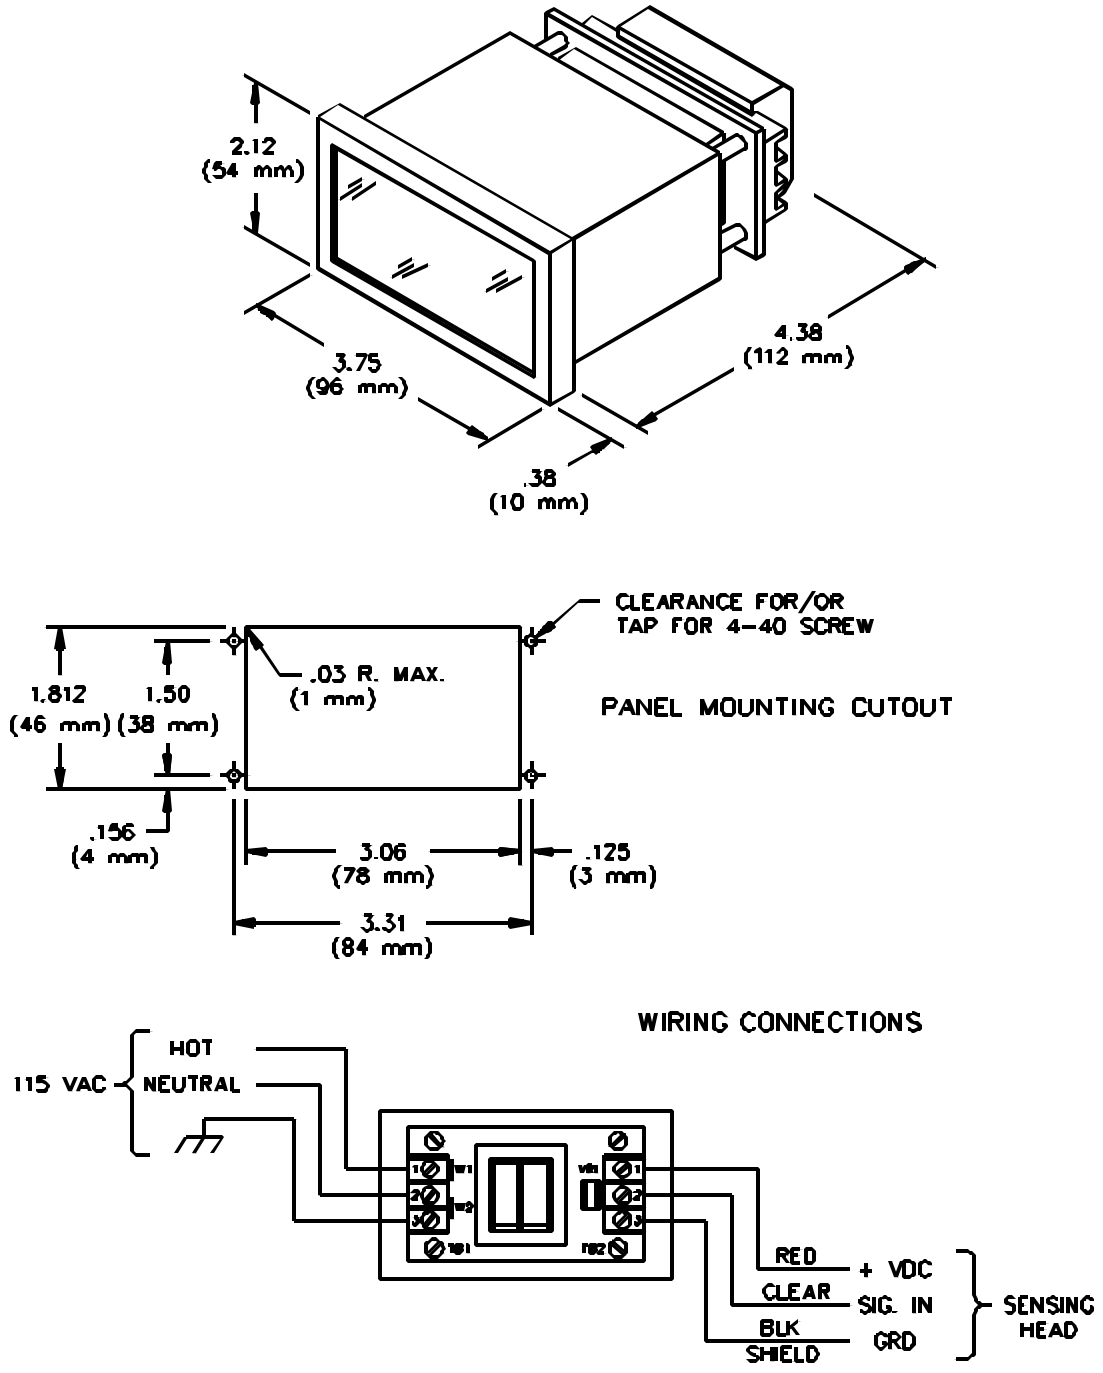

Figure 22: Tachometer Panel Meter
6. The digital meter [2003] is housed in a plastic case and designed for installation in a control panel designated suitable for non-hazardous areas. Ambient operating temperature range is 32° to 158° F (0° to 70° C). The input power required is single phase, 50/60 Hz, 115 VAC. See *Figure 22, page 43* for the wiring diagram and panel cut-out dimensions.